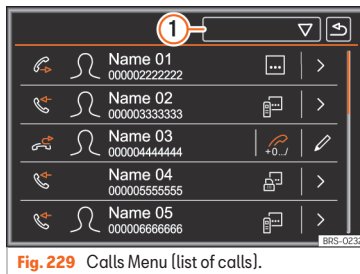

Fig. 229 Calls Menu (list of calls).
- Press function button  » Fig. 229 1.